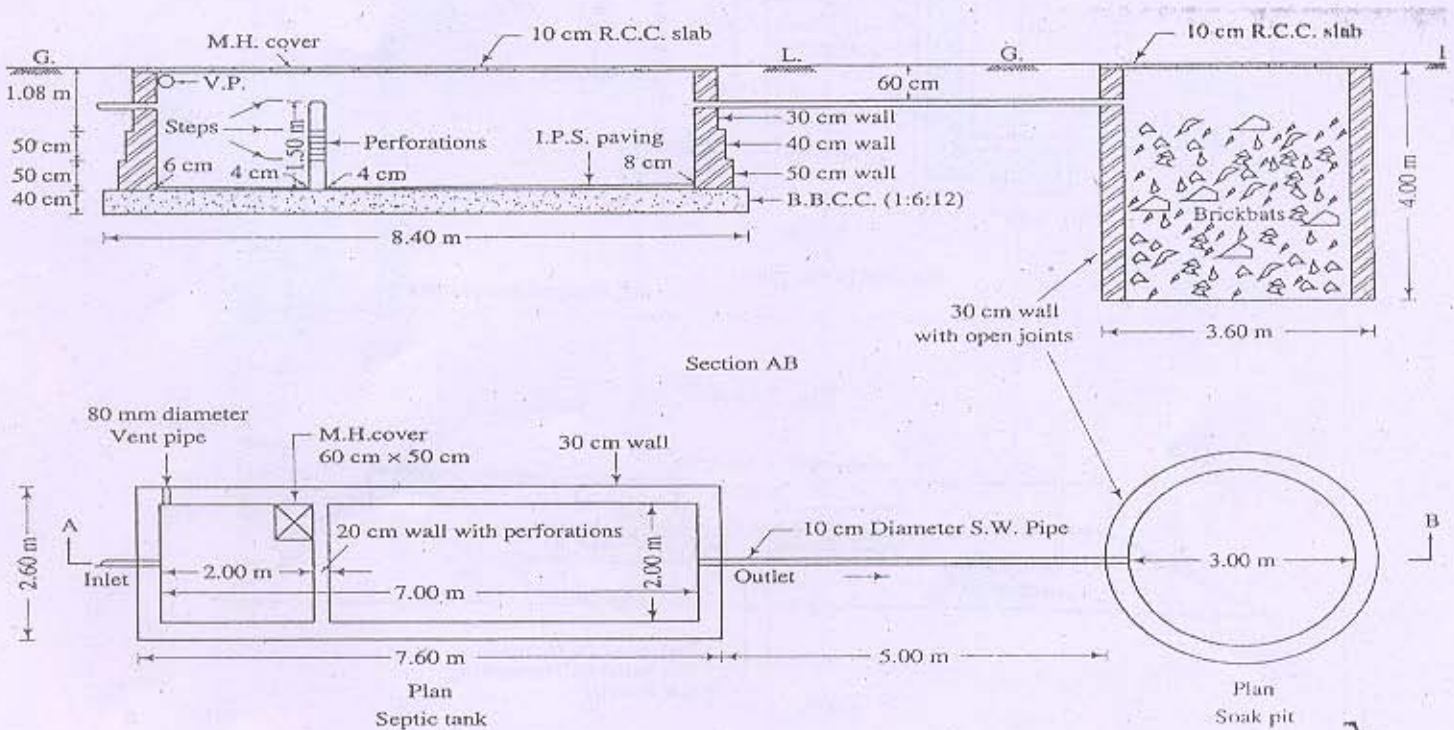

Fig. 2 Q-3 (B)
- Q-3(A) What is project? How it is different from non-project. [05]
- Q-3(B) Workout quantity of septic tank and soak pit shown in Figure 2 [09]